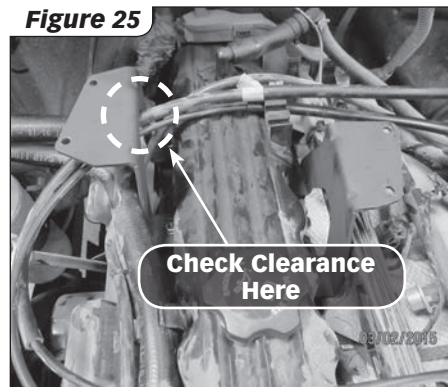

Figure 25
8. Check throttle cable and cruise control cable clearance to the Techni-Cooler brackets, adjust by sliding the cables to create at least 1/2" of clearance. **See Figure 25**